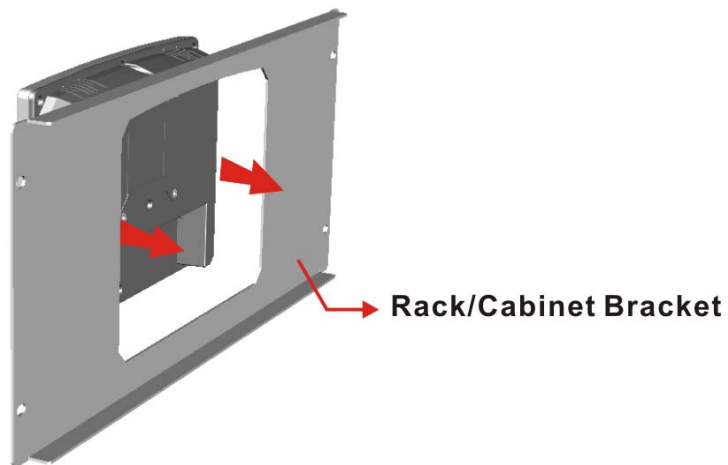

Figure 3-24: Rack/Cabinet Bracket Installation
- Step 1:** Slide the rear chassis of the AFL3-W10A/12A/W15A-BT panel PC through the rack/cabinet bracket until the frame is flush against the front of the bracket (Figure 3-24).